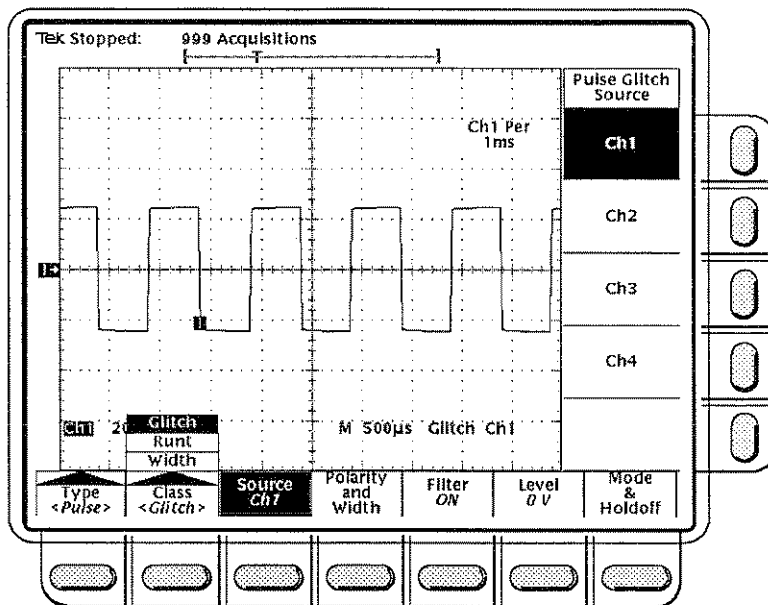

Figure 3-15: Main Trigger Menu – Glitch Class
- Step 1:** Press the **TRIGGER MENU** button to bring up the Main Trigger menu (Figure 3-15).